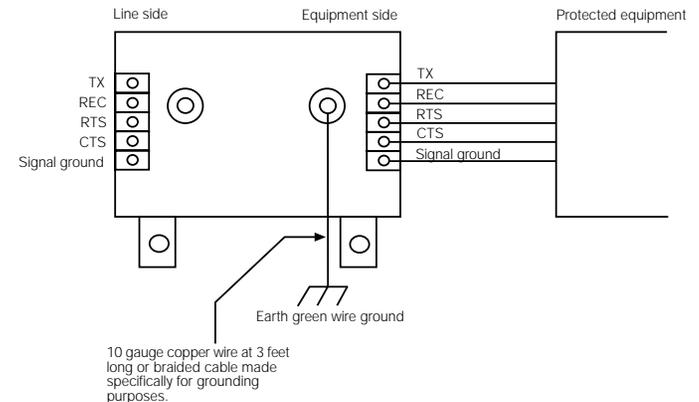

Figure 2-1: Wiring Diagram
- The earth ground connection should be kept as short as possible for best performance. As a recommendation a minimum of 10 gauge copper wire at no more than three feet should be used (see Figure 2-1). If it is not possible to achieve the short distance a braided cable made specifically for grounding purposes should be used.